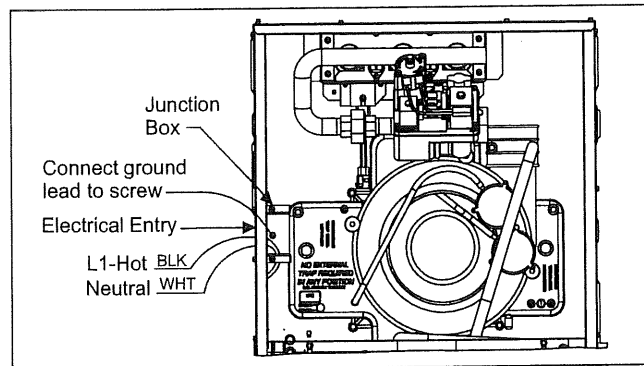

FIGURE 17: Electrical Wiring
2. Remove the wiring box cover screws. Route all power wiring through a conduit connector or other proper bushing that has been installed into the unit opening and the junction box. In the junction box there is a black wire, a white wire and a green ground screw. Connect the power supply as shown on the unit's wiring label on the inside of the blower compartment door or the wiring schematic in this section. Connect the black wire to L1 (hot) from the power supply. Connect the white wire to neutral. Connect the ground wire (installer-supplied) to the green (equipment ground) screw. An alternate wiring method is to use a field-provided 2" (5.1 cm) x 4" (10.2 cm) box and cover on the outside of the furnace. Route the furnace leads into the box using a protective bushing where the wires pass through the furnace panel. After making the wiring connections replace the wiring box cover and screws. Refer to Figure 17.
3. The furnace's control system requires correct polarity of the power supply and a proper ground connection. Refer to Figure 17.
Install the field-supplied thermostat by following the instructions that come with the thermostat. With the thermostat set in the OFF position and the main electrical source disconnected, connect the thermostat wiring from the wiring connections on the thermostat to the terminal board on the ignition module, as shown in Figure 17. Electronic thermostats may require the common wire to be connected. Apply strain relief to thermostat wires passing through cabinet. If air conditioning equipment is installed, use thermostat wiring to connect the Y and C terminals on the furnace control board to the proper wires on the condensing unit (unit outside).